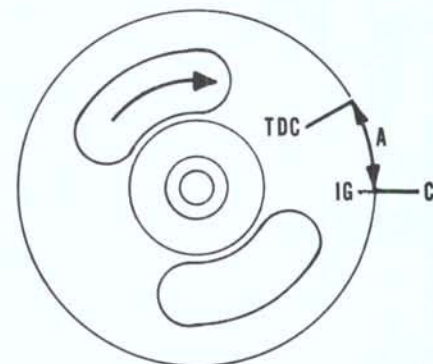

Fig. MG1-2—Normal mark on flywheel indicates Top Dead Center when aligned with mark (C) on crankcase. Refer to text for setting ignition timing.
The ignition breaker point gap at maximum opening should be 0.4mm (0.016 inch). Gap can be checked and adjusted through opening in flywheel after removing the gear shift pedal and crankcase right side cover. The crankshaft is at TDC when the mark on flywheel is aligned with mark on crankcase. To check ignition timing, mark the flywheel outer edge at point (IG—Fig. MG1-2) 22mm (0.86 in.) before the TDC mark. Turn the crankshaft slowly clockwise until the breaker points just open. The mark (IG) just affixed to flywheel should be aligned with mark on